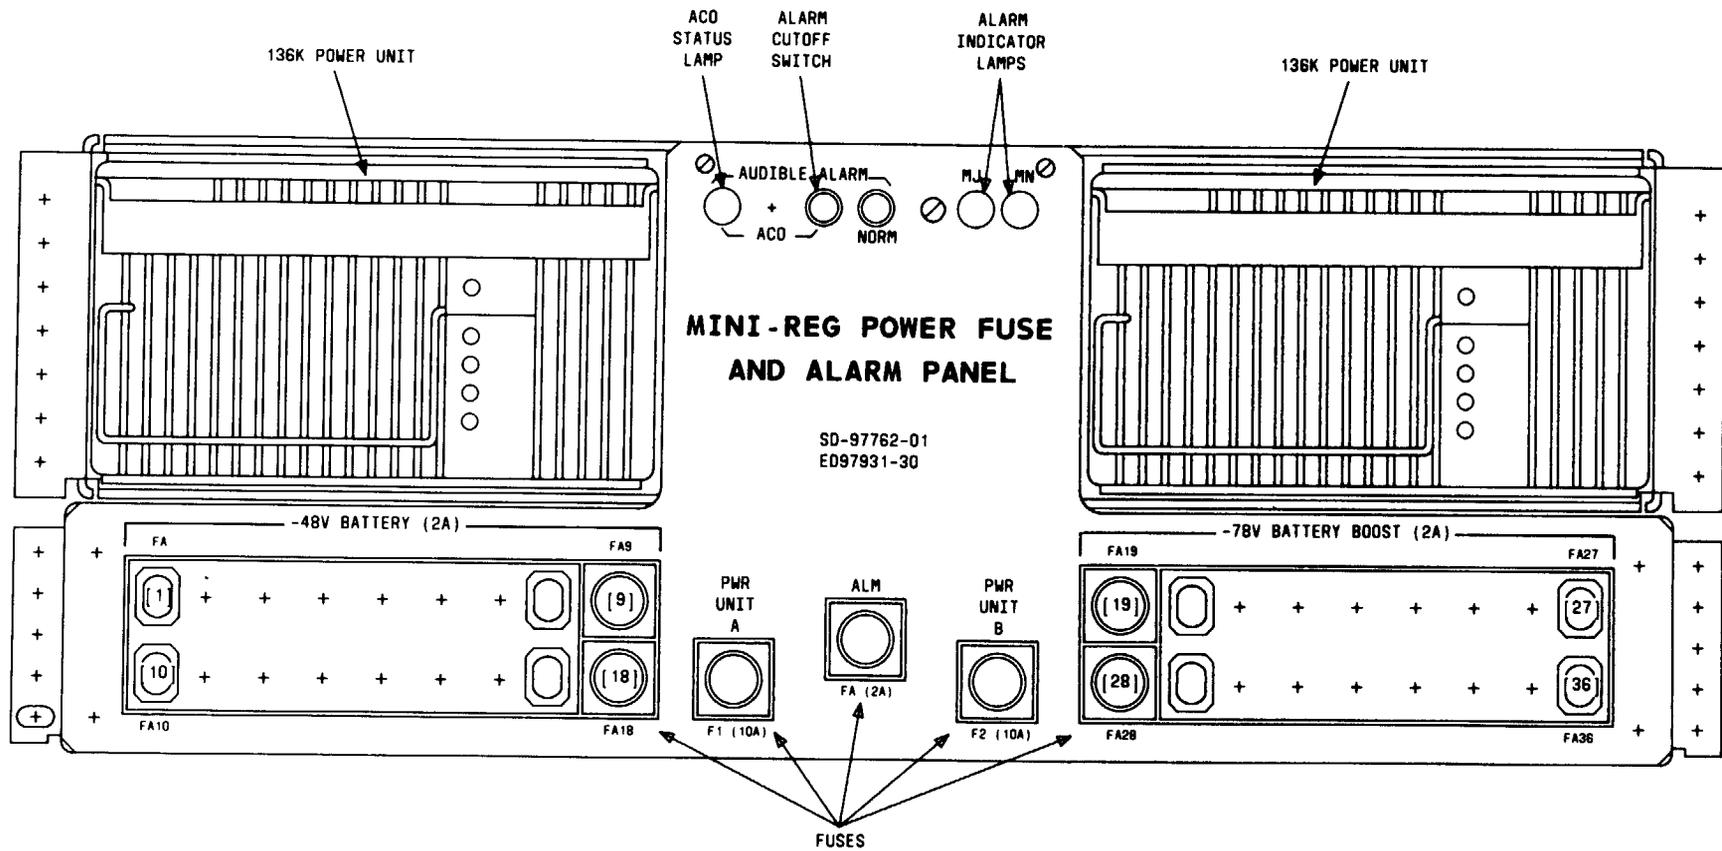

Fig. 5—Mini-REG Power Fuse and Alarm Panel
**4.09** The power, fuse, and alarm panel contains the bay fuses, alarm circuits, and power units as shown in Fig. 5. Each plug-in shelf of 7A REGs is protected by type 70 fuses. There is one fuse for the -48 V and one for the -78 V supplies to each shelf. The -78 V dc boosted battery is provided by a pair of 136K power units (dc-to-dc power converter units) in the panel. The outputs of these two units are paralleled through diodes internal to the power supplies.